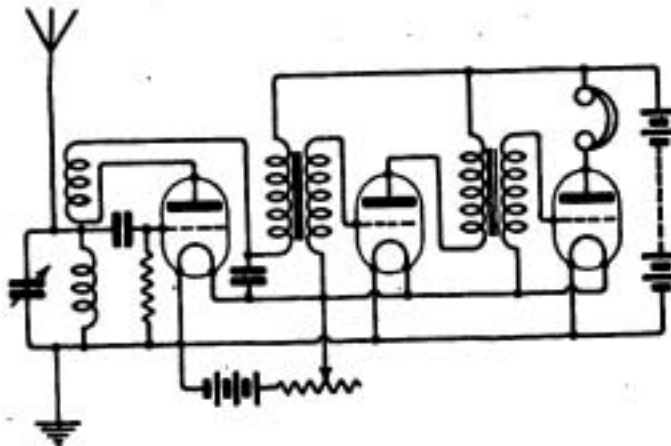

Fig. 11.
(1) Circuit is quite O.K. except that a parallel condenser of 0.001 mfd. is highly undesirable for short waves. (2) See diagram (Fig. 11). (3) 0.001 mfds. is too big, and 0.0005 mfds. for the closed circuit dimensions might be primary 5" x 3" of No. 22, and secondary 5" x 2½" of No. 24.